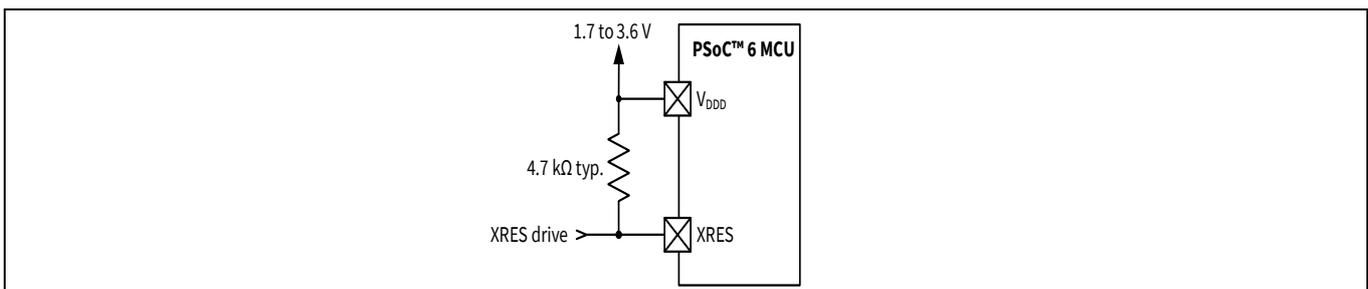

Figure 4 XRES connection diagram
- External reset dedicated pin (XRES) to reset the device using an external source. The XRES pin is active low. It can be connected either to a pull-up resistor to V_{DD} , or to an active drive circuit, as Figure 4 shows. If a pull-up resistor is used, select its value to minimize current draw when the pin is pulled low; 4.7 kΩ is typical.